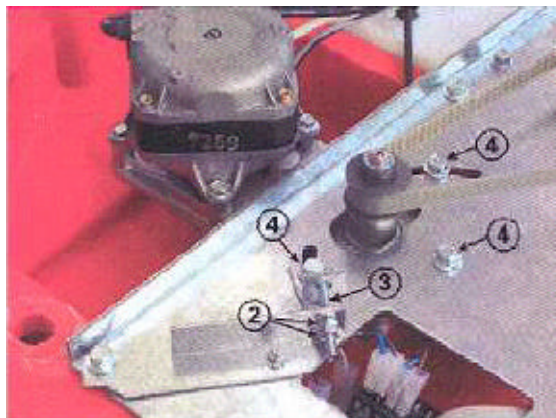

Figure 3
- a. Unscrewing the two (2) nuts marked with a “2” in Figure 3.
- b. Remove the setting screw marked with a “3” in Figure 3.
- c. Loosen the three (3) screws marked with a “4” in Figure 3.
6. While supporting the Gear Motor remove the three (3) screws marked with a “4” in Figure 3.
3. While supporting the Gear Motor install the three (3) screws marked with a “4” in Figure 3. Do not tighten at this time.
8. Tighten the three (3) screws marked with a “4” in Figure 3.
9. Install the setting screw marked with a “3” in Figure 3.
10. Tighten the two (2) nuts marked with a “2” in Figure 3.